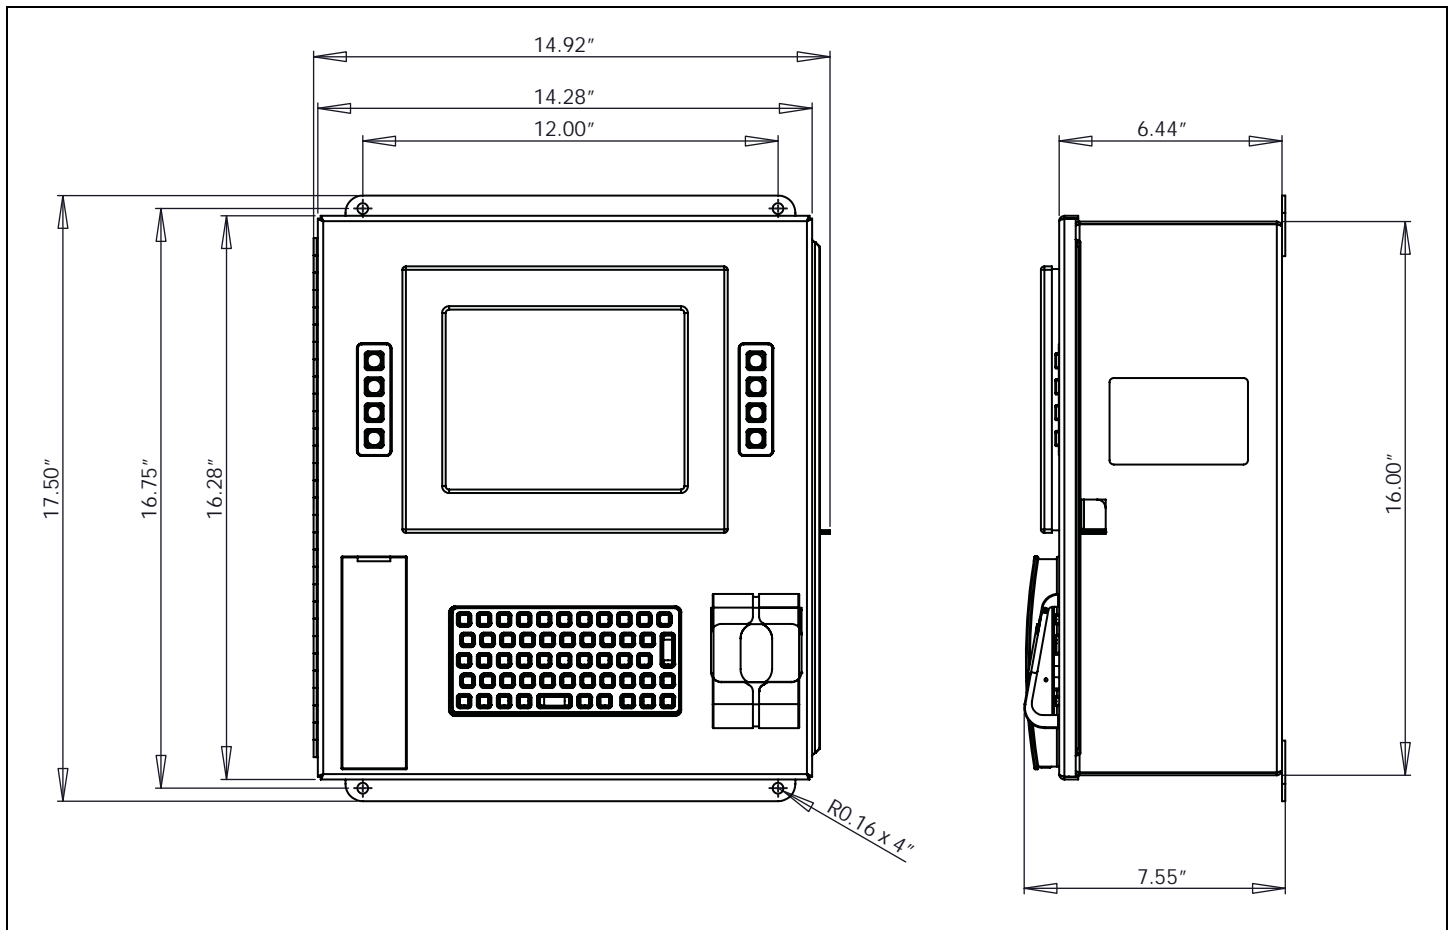

Figure 2-1: 8620 DET Dimensions
2. Ensure proper grounding of the 8620 DET. Refer to Figure 2-1 below for dimensions and mounting holes.